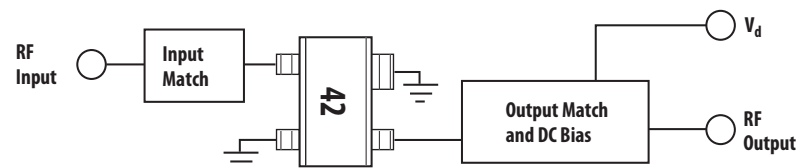

Figure 1. Block Diagram of Test Fixture.
1. Measurements obtained from a fixed narrow band tuning described in Figure 1. This circuit designed to optimize Noise Figure and IIP3 while maintaining VSWR better than 2:1.